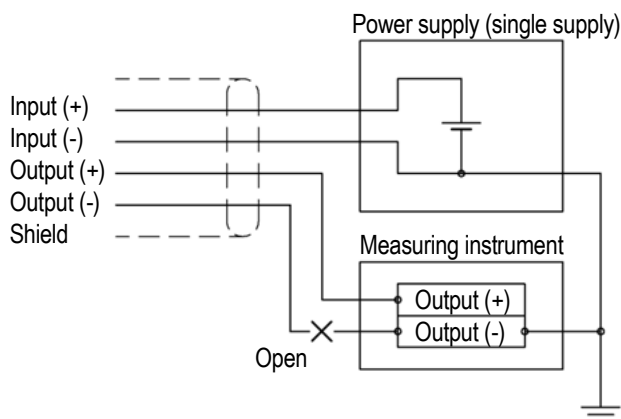

Fig.6
4.5 Do not connect the C: Input (-) to B: Output (-) when you use the single supply as the bridge excitation. At this time, open the B: OUTPUT (-) as illustrated below. In addition, the no-load output indicates the middle value of the power supply voltage. (Fig.6)